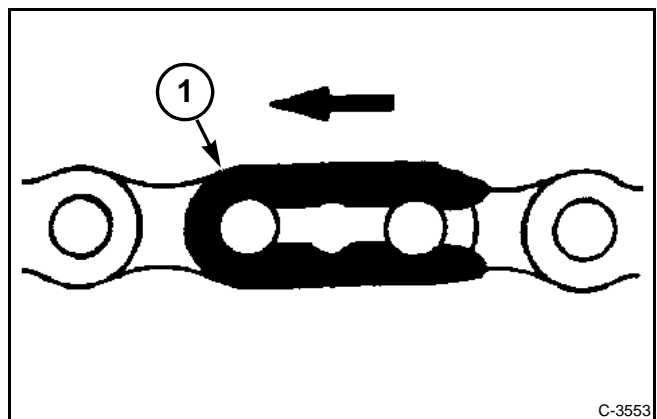

FIG. 22
FIG. 22: When using spring clip connectors, always install the spring clip (1) with the open end of the clip trailing in the direction of chain travel to prevent removal or loss of the spring clip.